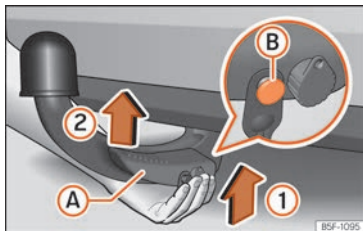

Fig. 295 Fitting the detachable ball / Release bolt in the deployed position.
»» Fig. 295 and insert it into the hook housing following the direction of arrow ① until it engages audibly »» ⚠.